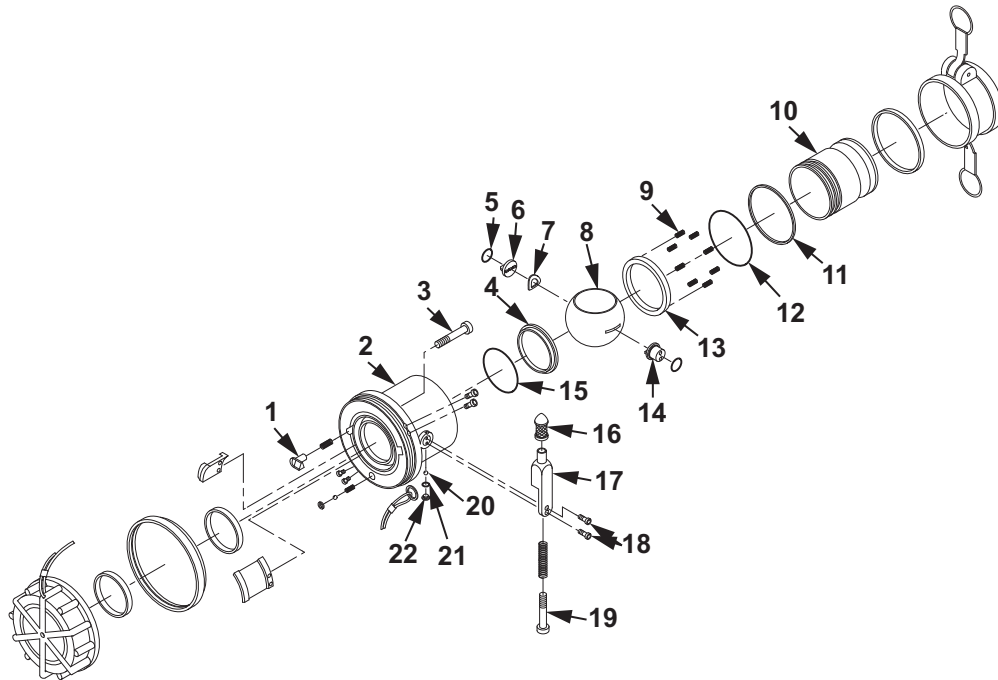

Figure 3. Valved Dry-Break Coupling Assembly.
20. Install knob (Figure 3, Item 16) on control arm (Figure 3, Item 17).
21. Tighten screw (Figure 3, Item 19) hand tight.
22. Install control arm shaft (Figure 3, Item 14) inside coupling (Figure 3, Item 2).
23. Position control arm (Figure 3, Item 17) with holes on control arm shaft (Figure 3, Item 14).
24. Install two screws (Figure 3, Item 18) through control arm (Figure 3, Item 17) and into control arm shaft (Figure 3, Item 14).
25. Using torque wrench and screwdriver bit, torque two screws (Figure 3, Item 18) to 8 in. lb (0.90 N•m).
26. Lightly lubricate new O-ring (Figure 3, Item 15) with petrolatum and install O-ring (Figure 3, Item 15) in coupling (Figure 3, Item 2).
27. Install new seal (Figure 3, Item 4) into coupling (Figure 3, Item 2).
28. Lightly lubricate new O-ring (Figure 3, Item 5) with petrolatum and install O-ring (Figure 3, Item 5) in groove of stop pin (Figure 3, Item 6).
29. Install spring washer (Figure 3, Item 7) in groove of stop pin (Figure 3, Item 6).
30. Install stop pin (Figure 3, Item 6) inside coupling (Figure 3, Item 2).
31. Align slots in ball valve (Figure 3, Item 8) with tangs on control arm shaft (Figure 3, Item 14) and stop pin (Figure 1, Item 6).
32. Install ball valve (Figure 3, Item 8) in coupling (Figure 3, Item 2).
33. Rotate control arm (Figure 3, Item 17) to the open position to retain ball valve (Figure 3, Item 8) in place.
34. Test function of lockout pin (Figure 3, Item 1), if not removed from coupling (Figure 3, Item 2).
- a. With ball valve (Figure 3, Item 8) in the open position, depress lockout pin (Figure 3, Item 1). If lockout pin (Figure 3, Item 1) cannot be depressed, then stop pin (Figure 3, Item 6) has been installed correctly.
- b. With ball valve (Figure 3, Item 8) in the open position, depress lockout pin (Figure 3, Item 1). If lockout pin (Figure 3, Item 1) can be depressed, then stop pin (Figure 3, Item 6) has been installed incorrectly.
- c. If stop pin (Figure 3, Item 6) was installed incorrectly, remove ball valve (Figure 3, Item 8) and reposition stop pin (Figure 3, Item 6).
35. Test function of lockout pin (Figure 3, Item 1) if removed from coupling (Figure 3, Item 2).
- a. With ball valve (Figure 3, Item 8) in the open position, from the interface end, look through hole in lockout pin (Figure 3, Item 1) and observe stop pin (Figure 3, Item 6). If stop pin (Figure 3, Item 6) half shaft can be seen, then stop pin (Figure 3, Item 6) has been installed correctly.
- b. With ball valve (Figure 3, Item 8) in the open position, from the interface end, look through hole in lockout pin (Figure 3, Item 1) and observe stop pin (Figure 3, Item 6). If stop pin (Figure 3, Item 6) half shaft cannot be seen, then stop pin (Figure 3, Item 6) has been installed incorrectly.
During adjustment of lockout pin (Figure 3, Item 1), ensure that ball valve (Figure 3, Item 8) is securely seated at all times.
36. Adjust lockout pin (Figure 3, Item 1).
- a. Pull knob (Figure 3, Item 16) on control arm (Figure 3, Item 17) back and slowly rotate towards the closed position. If control arm (Figure 3, Item 17) cannot be rotated or is too tight, then lockout pin (Figure 3, Item 1) requires adjustment.
- b. Adjust lockout pin (Figure 3, Item 1) by loosening screw (Figure 3, Item 3) one-quarter turn at a time until control arm (Figure 3, Item 17) can be rotated freely.
37. Lightly lubricate new O-ring (Figure 3, Item 11) with petrolatum and install O-ring (Figure 3, Item 11) in second groove on outside of inlet adapter (Figure 3, Item 10).
38. Lightly lubricate new O-ring (Figure 3, Item 12) with petrolatum and install O-ring (Figure 3, Item 12) in inside groove of inlet adapter (Figure 3, Item 10).
39. Position eight springs (Figure 3, Item 9) in the eight holes on the inside of the inlet adapter (Figure 3, Item 10).
40. Install new seal (Figure 3, Item 13) in inside groove of inlet adapter (Figure 3, Item 10).
41. Position inlet adapter (Figure 3, Item 10) into coupling (Figure 3, Item 2) and press in to line up groove of inlet adapter (Figure 3, Item 10) with groove of coupling (Figure 3, Item 2).